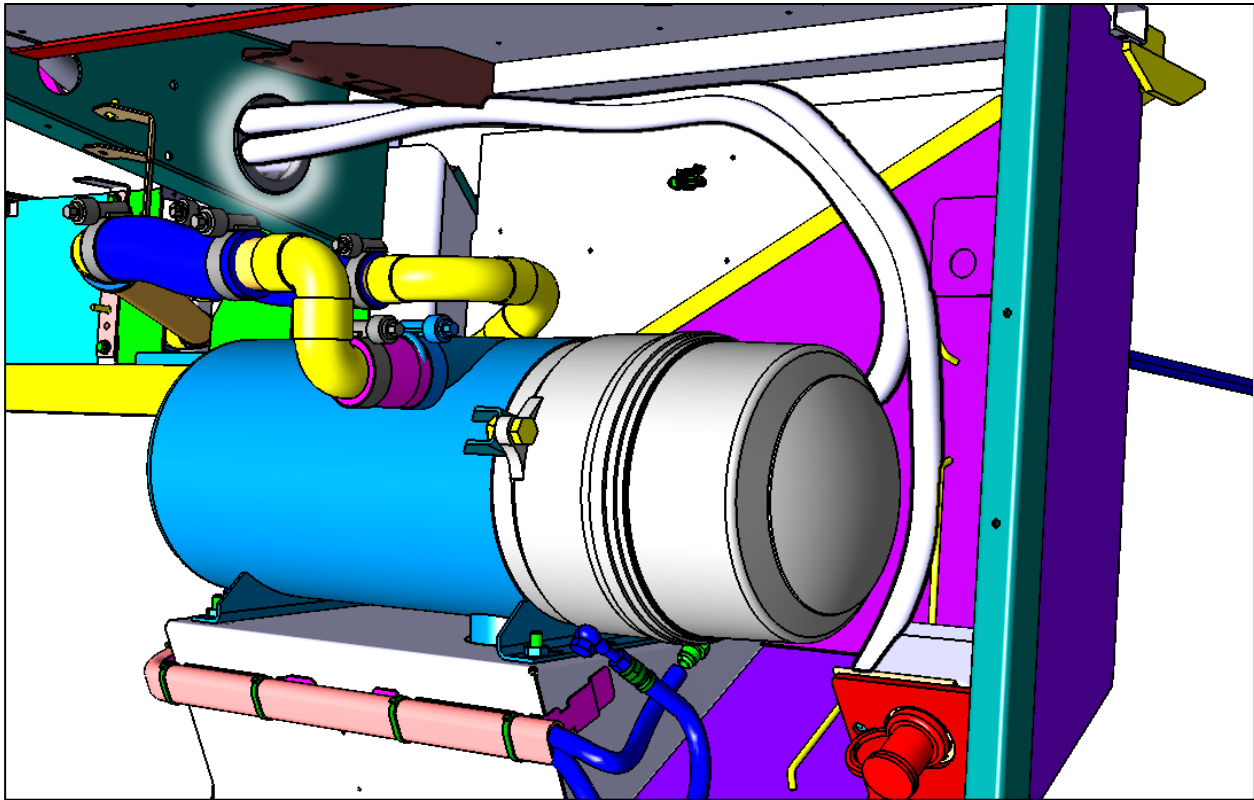

Figure 6 : Typical Volvo D13 cable routing
**A2.** Vehicles with **Volvo D13 engine** with or without pre-heater: perform a careful visual inspection of cable and grommet condition. (Figure 6)